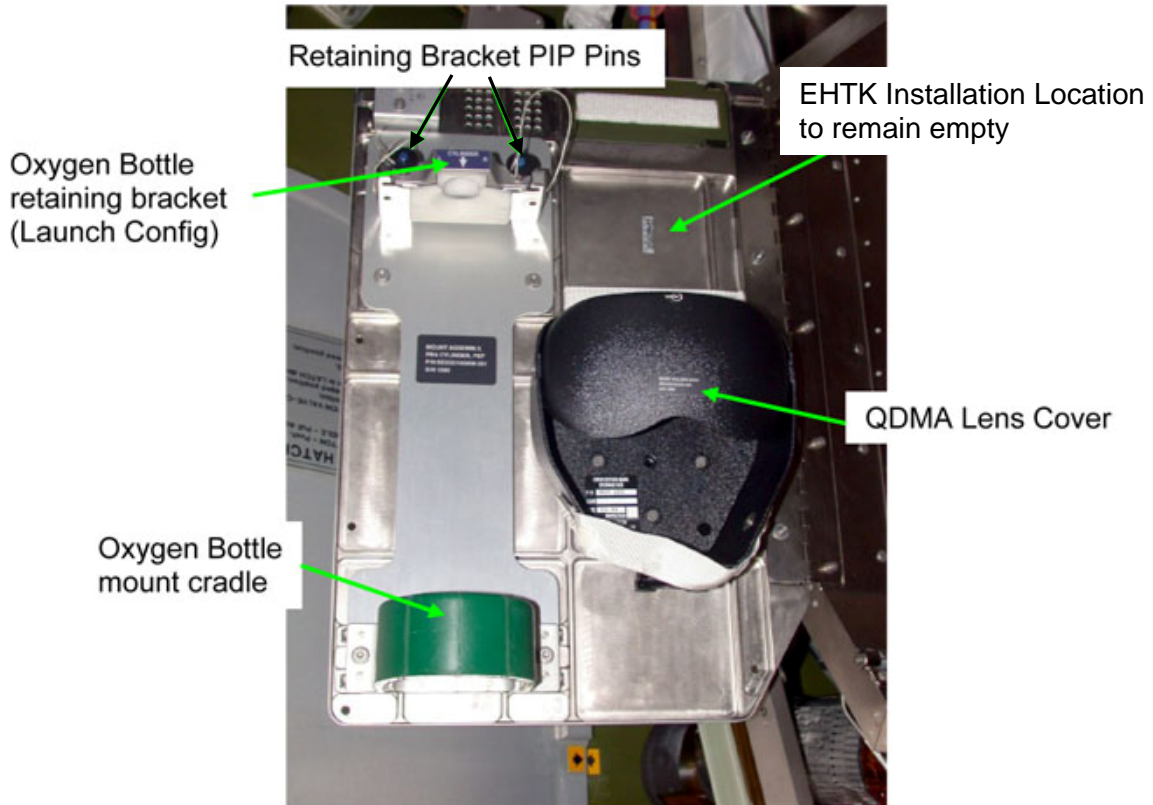

Figure 4.- PBA Install Location.
- 2.1 Remove tethered PIP Pins (two) to release front and rear brackets. Refer to Figures 4, 5, 6, 7.
- 2.3 Horizontally rotate front bracket and install with two cutouts and orientation arrow pointing down. Reinstall PIP Pins. Refer to Figures 4, 5, 7.